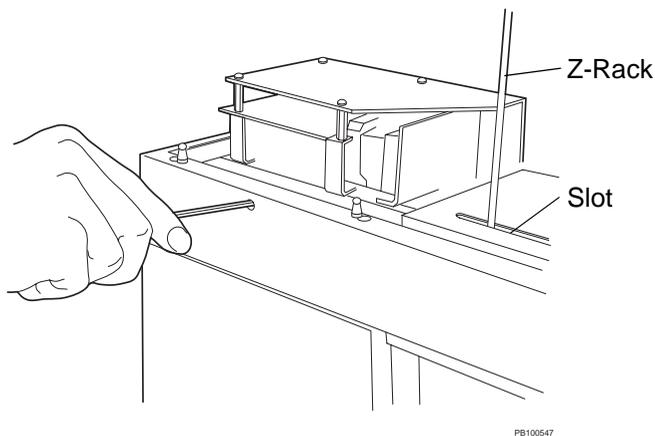

Figure 2-3 Removing the Transport Screw
4. Remove the transport screw (red, hex) on the left side of the AFC 2000 (Figure 2-3).
8. Remove the foam piece from the Z-Rack slot (see Figure 2-3 on page 2-4).